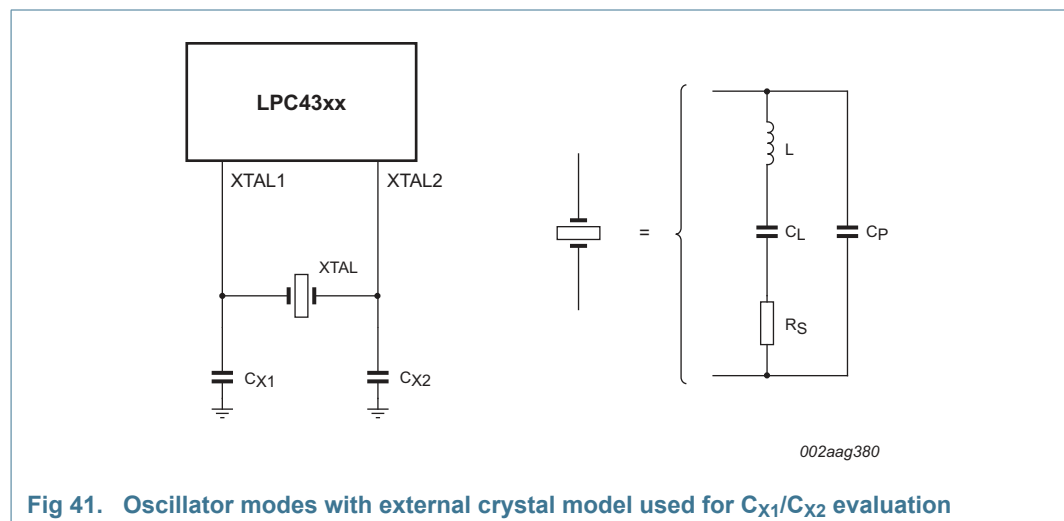

Fig 41. Oscillator modes with external crystal model used for C_{X1}/C_{X2} evaluation
- External components and models used in oscillation mode are shown in Figure 41, and in Table 43 and Table 44. Since the feedback resistance is integrated on chip, only a crystal and the capacitances C_{X1} and C_{X2} need to be connected externally in case of fundamental mode oscillation (the fundamental frequency is represented by L, CL and RS). Capacitance C_P in Figure 41 represents the parallel package capacitance and should not be larger than 7 pF. Parameters FC, CL, RS and CP are supplied by the crystal manufacturer.